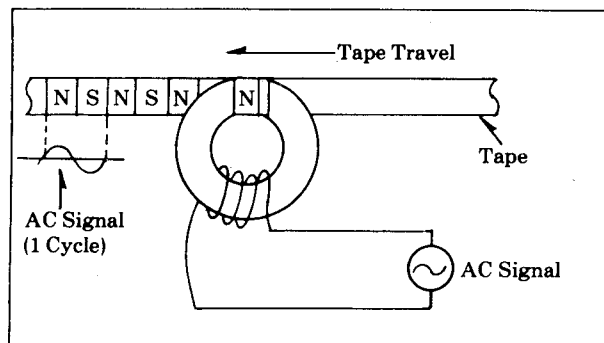

Fig. 2
The tape will have differently magnetized regions, which can be called North (N) and South (S), according to the AC signal. When the polarity of the AC signal changes, so does the direction of magnetization on the tape, as shown by one cycle on the AC signal (see Fig. 2). If the recorded tape is then moved past a head whose coil is connected to an amplifier, the regions of magnetization on the tape will set up flux across the head gap which will in turn induce a voltage in the coil to be amplified. The output of the amplifier, then is the same as the original AC signal. This is essentially what is done in audio recording, with other methods for improvement like bias and equalization.
There are some inherent limitations in the tape recording process which do effect video tape recording, so they will be examined now. As shown in Fig. 2, the tape has North and South magnetic fields which change according to the polarity of the AC signal. What if the frequency of the AC signal were to greatly increase?